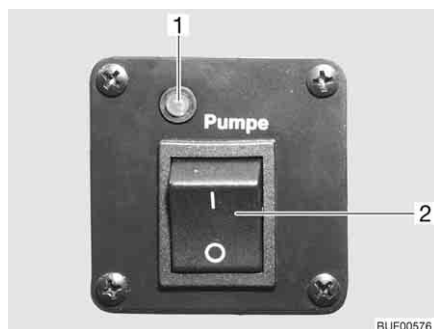

Fig. 144 Switch for water pump
- Press upper part of the flip switch (Fig. 144,2). The indicator lamp (Fig. 144,1) lights up.
- Press lower part of the flip switch (Fig. 144,2). The indicator lamp (Fig. 144,1) goes out.